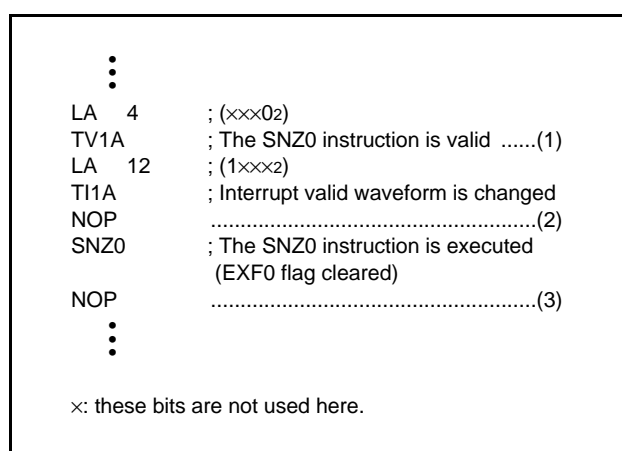

Fig 26. External 0 interrupt program example-3
- Depending on the input state of the P20/INT0 pin, the external 1 interrupt request flag (EXF0) may be set when the bit 2 of register I1 is changed. In order to avoid the occurrence of an unexpected interrupt, clear the bit 0 of register V1 to "0" (refer to (1) in Figure 26) and then, change the bit 2 of register I1 is changed.
In addition, execute the SNZ0 instruction to clear the EXF0 flag to "0" after executing at least one instruction (refer to (2) in Figure 26).
Also, set the NOP instruction for the case when a skip is performed with the SNZ0 instruction (refer to (3) in Figure 26).